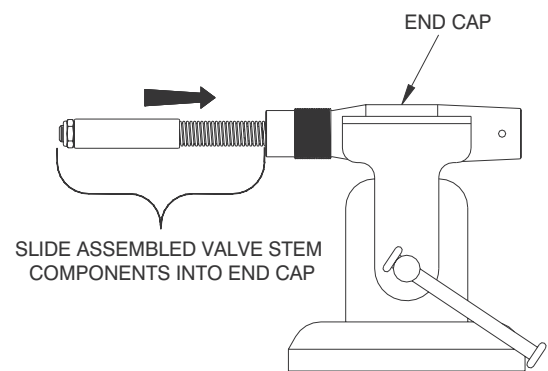

Figure 9-29. Slide Valve Stem into End Cap
3. Refer to Figure 9-29, and slide the tapered and threaded end of the Valve Stem (11) into the threaded end of the End Cap (16), and then into the Valve Guide (14).